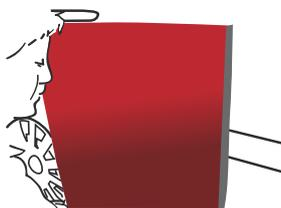

Figure 08
- › Remove the whole liner by pulling it off. (FIG. 08)